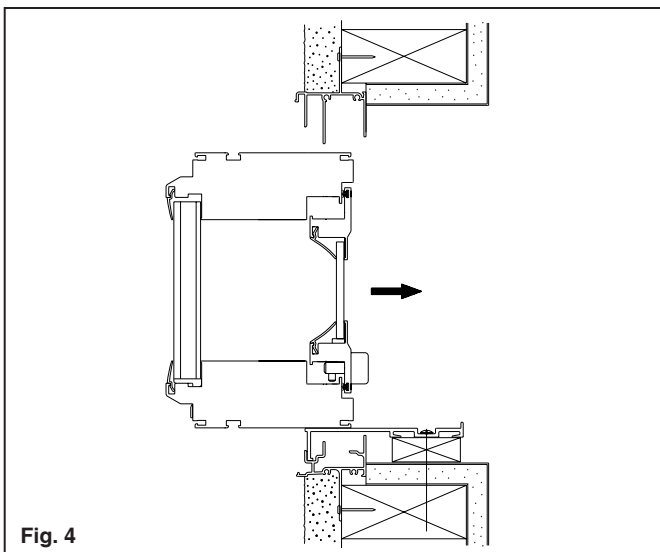

Fig. 4
A. Slide the new frame into the opening. See **Fig. 4**. Center frame between existing jambs and use shims to straighten and square frame. Wood filler blocks may be used to fill gaps between new and existing frames, but leave a small gap at the head for deflection. Measure frame diagonally across the corners to check for squareness. Adjust if needed.